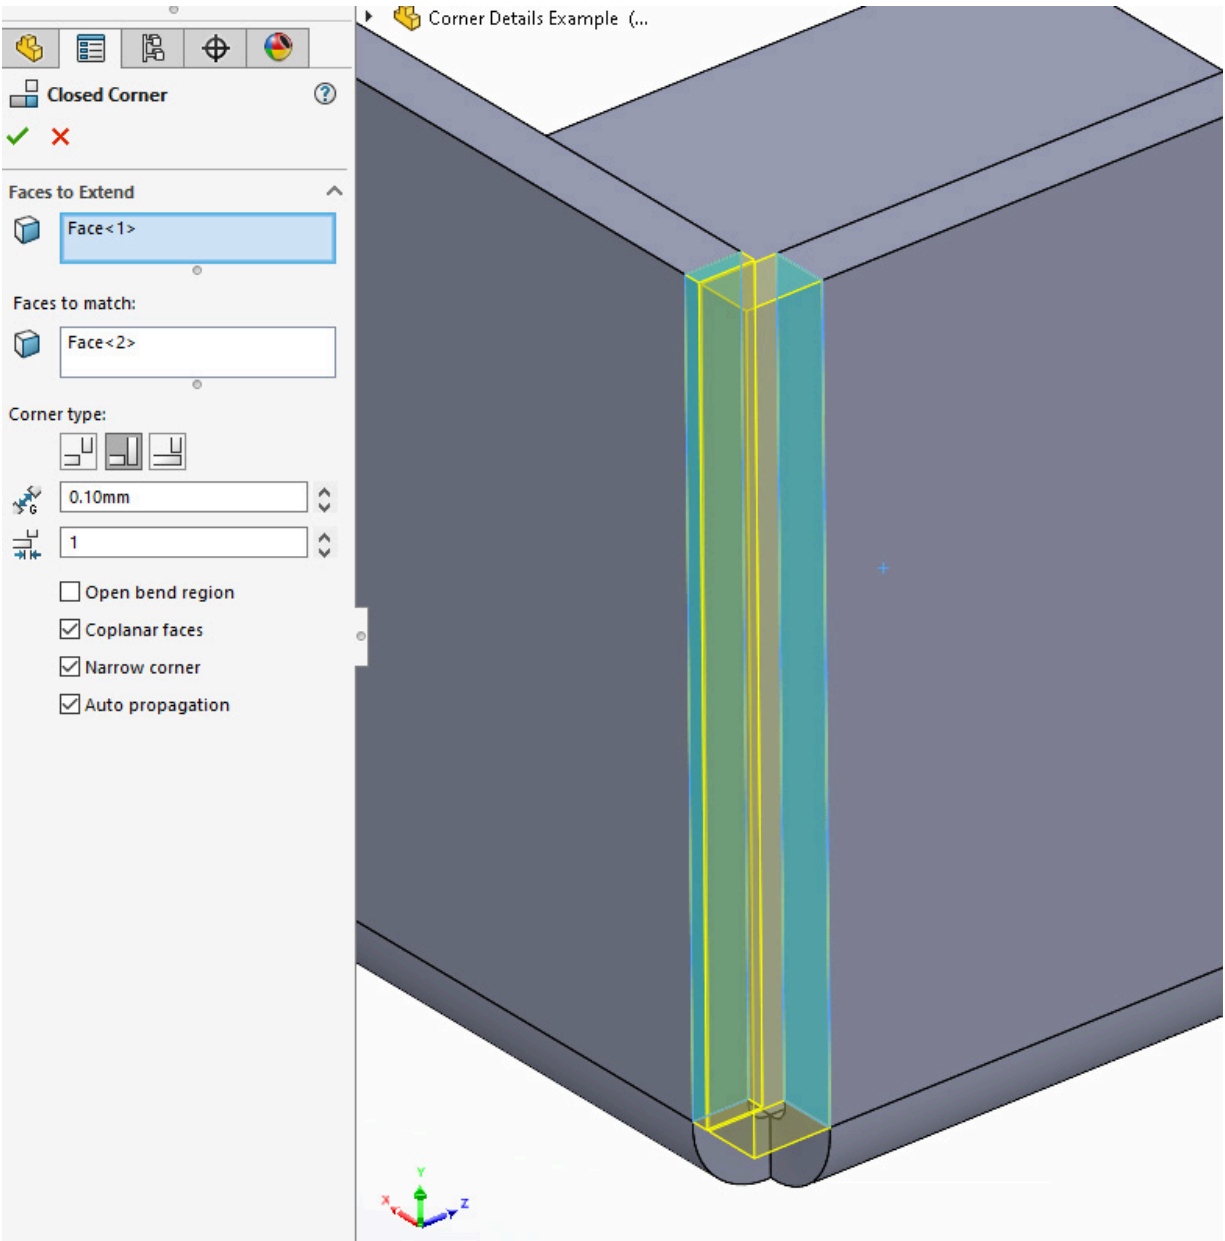

Figure 9.3: The Face to Extend is extended and the Face to match is extended by a smaller amount
5. A preview will now appear showing that the selected face has been extended and the corresponding face has been extended a smaller amount to reduce the corner gap (*Figure 9.3*). Note that the second face has automatically been selected as the **Face to match**. It is also possible to manually select the **Faces to match** if needed.